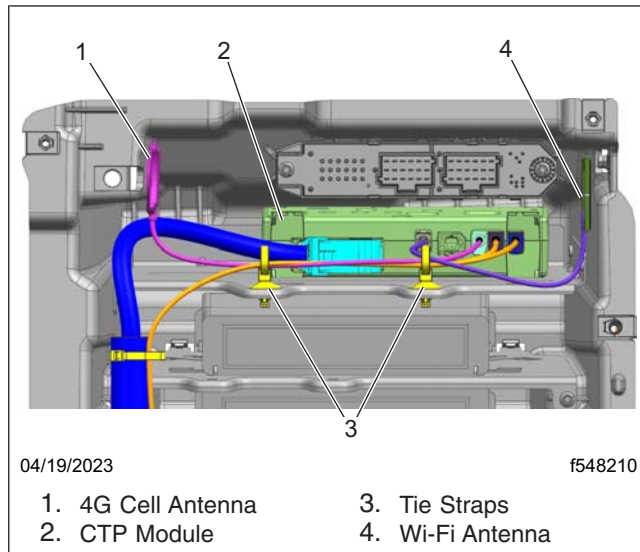

Fig. 1, Electronics Bay
5. Position the new CTP2 ECU in the top shelf of the electronics bay, then press the ECU firmly towards the back of the shelf. See **Fig. 1**. Lower the front of the CTP2 onto the surface of the shelf, and adjust its position horizontally until the tabs on the CTP2 are fully seated in the mounting slots.
- Connect the CTP2 electrical harness connector and antenna connectors to CTP2. See **Fig. 1** for connector and antenna connection locations.